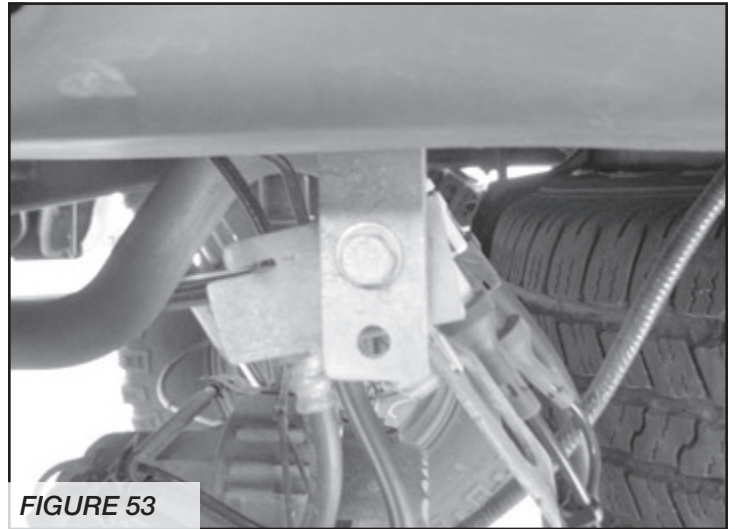

FIGURE 53
49. Locate the factory brake line mount on the driver side of the frame. Locate the Fabtech brake line bracket (FT70033) and attach the bracket between the factory frame mount and the factory brake line. **SEE FIGURE 53**